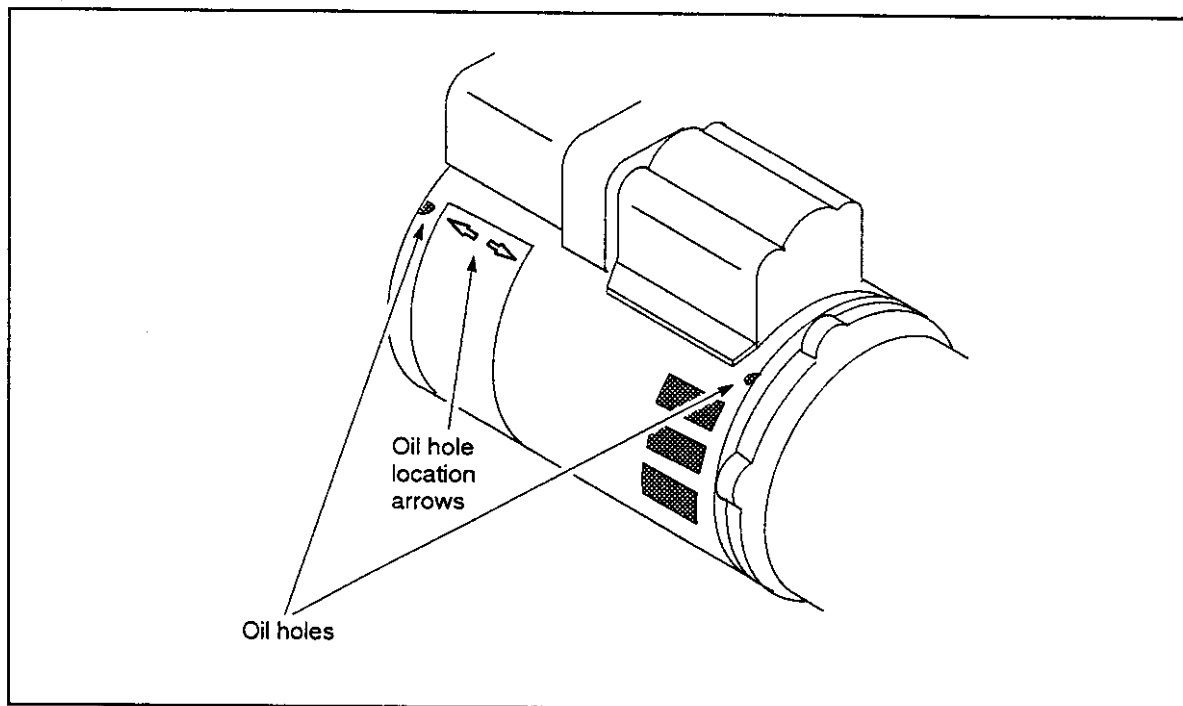

Figure 39. Cooling Pump Oil Hole Locations.
- c. On the cooling pump, locate the oil holes by observing an alignment arrow on the label attached to the body of the pump. Refer to Figure 39 for location of the oil holes.